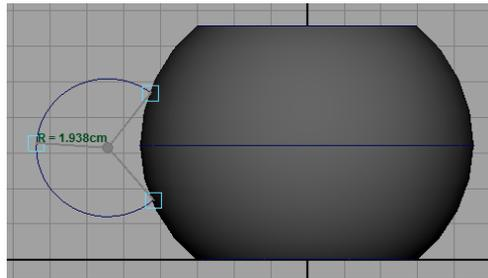

Figure 3-67 An arc created using the *Three Point Circular Arc* tool
1. Choose **Create > Arc Tools > Three Point Circular Arc** from the menubar and create an arc in the front viewport by defining the start point, the curve point, and the endpoint, refer to Figure 3-67.